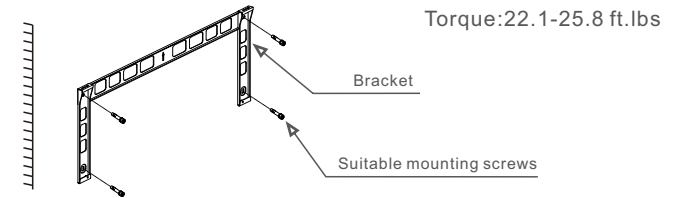
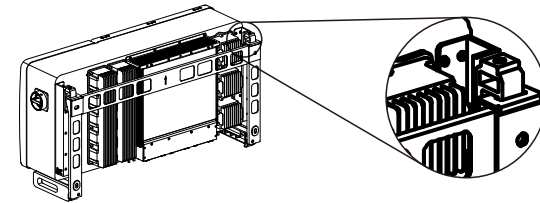

Figure 3.6 Inverter wall mounting
Figure 3.7 Install the inverter
Refer to figure 3.2, figure 3.6 and figure 3.7 Inverter shall be mounted upright, with electrical connections downward. The steps to mount the inverter are listed below.
1. Refer to Figure 3.6, drill holes for mounting screws based on the hole diameter of bracket using a precision drill keeping the drill perpendicular to the wall. Max depth is 3.5 inch.
2. Make sure the bracket is horizontal. And the mounting holes (in Figure 3.6) are marked correctly. Drill the holes into wall at your marks.